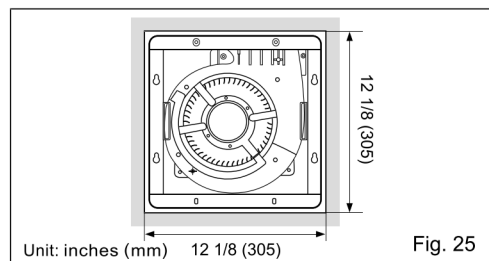

Fig. 25
7. Finish the wall work, wall hole should be aligned with the edge of the flange. (Fig. 25)